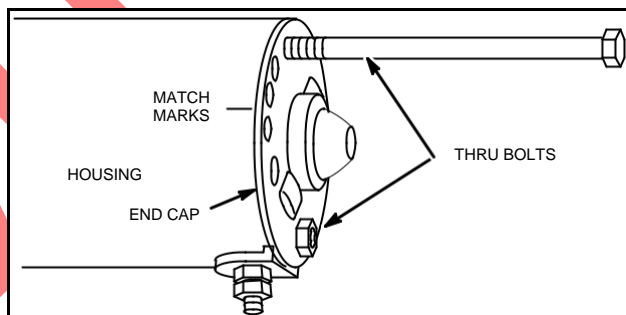

Fig. 670 – REMOVING THRU BOLTS
2. Remove thru bolts, Fig. 670.